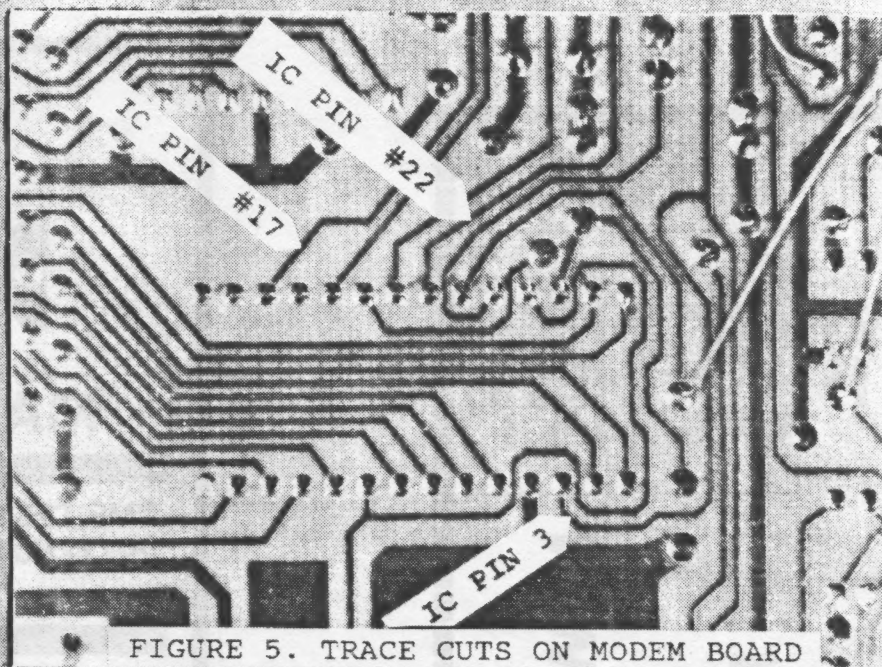

FIGURE 5. TRACE CUTS ON MODEM BOARD
- The following traces must be cut on the bottom side of the modem board. Find the large 28-pin chip near the incoming computer cable. The number on the chip will be INS8251N or similar. The traces to pins 3, 17, and 22 of this chip must be cut, (refer to Figure 5 in the reprint). Pin number one of the chip can be identified by a notch at the front end of the chip. Count the pins one through 14 down across the left side of the chip, and 15 through 28 up across the right side of the chip. Use an Exacto-Knife of similar implement to make the required cuts. Be carefull not to cut yourself.
You must make three trace cuts on the modem PC board. This is to disconnect the three modem input-signals that go from the modem's analog section to the 8251 chip. These signals are replaced with those coming from your RS-232 adaptor board. The traces to cut are shown in Figure 5.